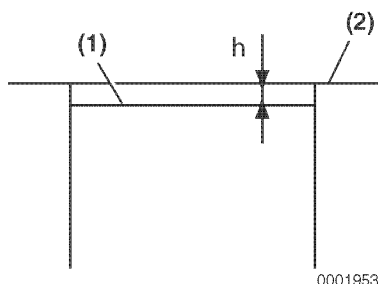

Figure 6-24
3. Use a depth micrometer to measure the distance (**h**) from the cylinder block surface (**Figure 6-24, (2)**) to the top of the piston (**Figure 6-24, (1)**). Be careful to avoid the valve relief pockets and any marks stamped on the piston. Take the average of two measurements, 180° apart and in line with the piston wrist pin and record the measurement (**h**).